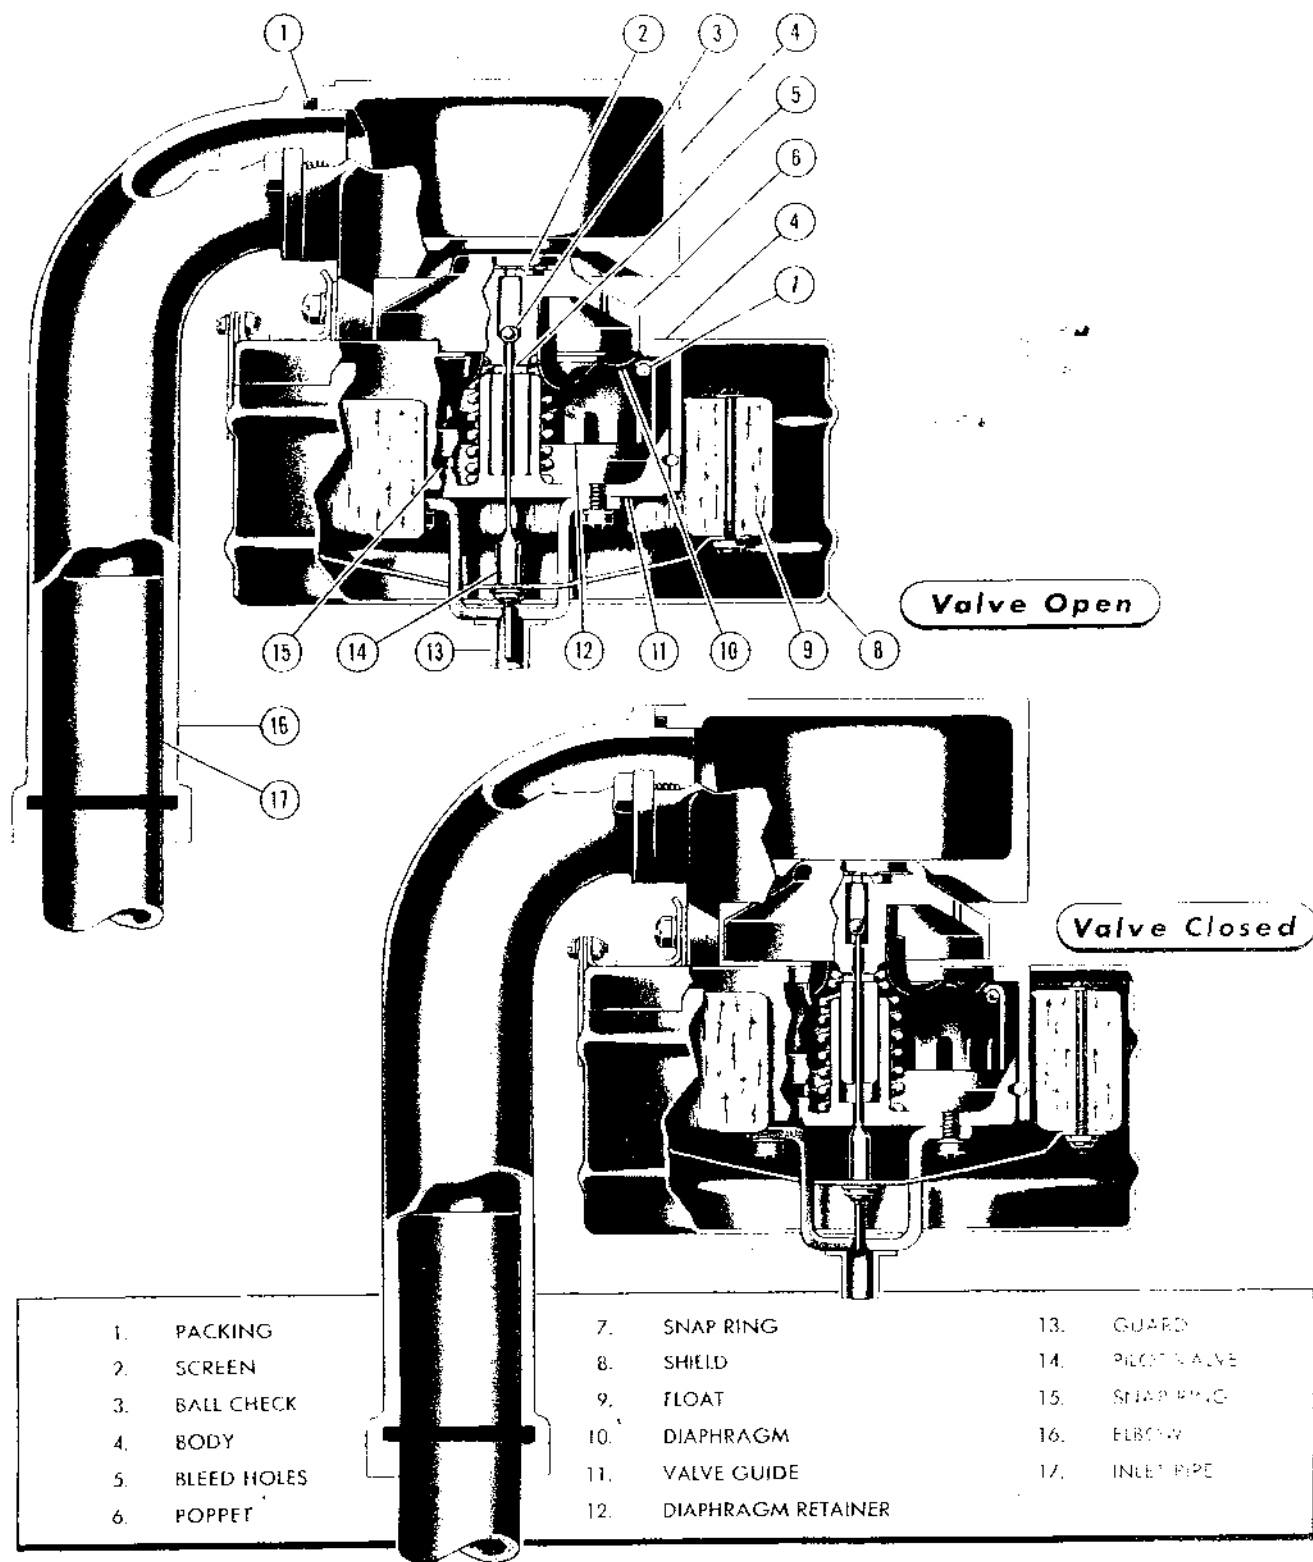

Figure 107 — Fuel Float Valve, Fuselage Tank
(7) FLOAT VALVES. (*See figure 107.*)